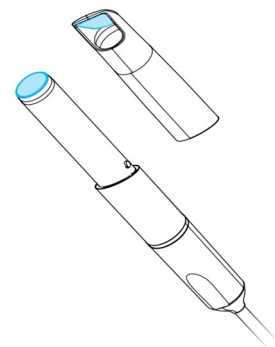

Figure 8: Cleaning the optics of handpiece and sleeve
2. Clean the optics on the handpiece sleeve using a foam tip applicator soaked with alcohol (see *Figure 8: Cleaning the optics of handpiece and sleeve, p. 33*).
3. Clean the optics on the handpiece (without sleeve) using a foam tip applicator soaked with alcohol (see *Figure 8: Cleaning the optics of handpiece and sleeve, p. 33*).